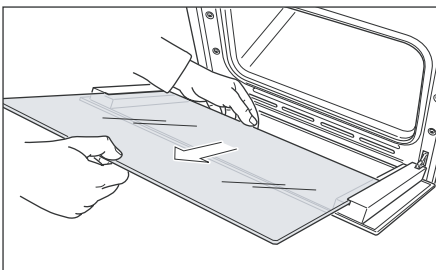

Fig.55e
- Gently pull out the inner pane of glass (Fig. 55e).